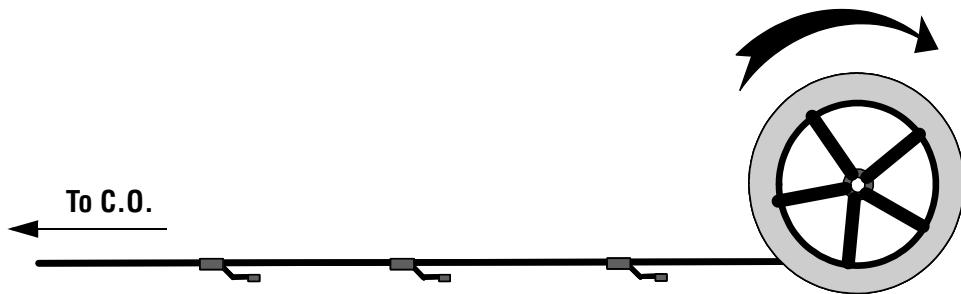

Figure 4. Central Office Side Comes off Reel First
ATS cables are loaded onto reels with the Central Office (CO) ends on the outside of the reels as shown in Figure 4.